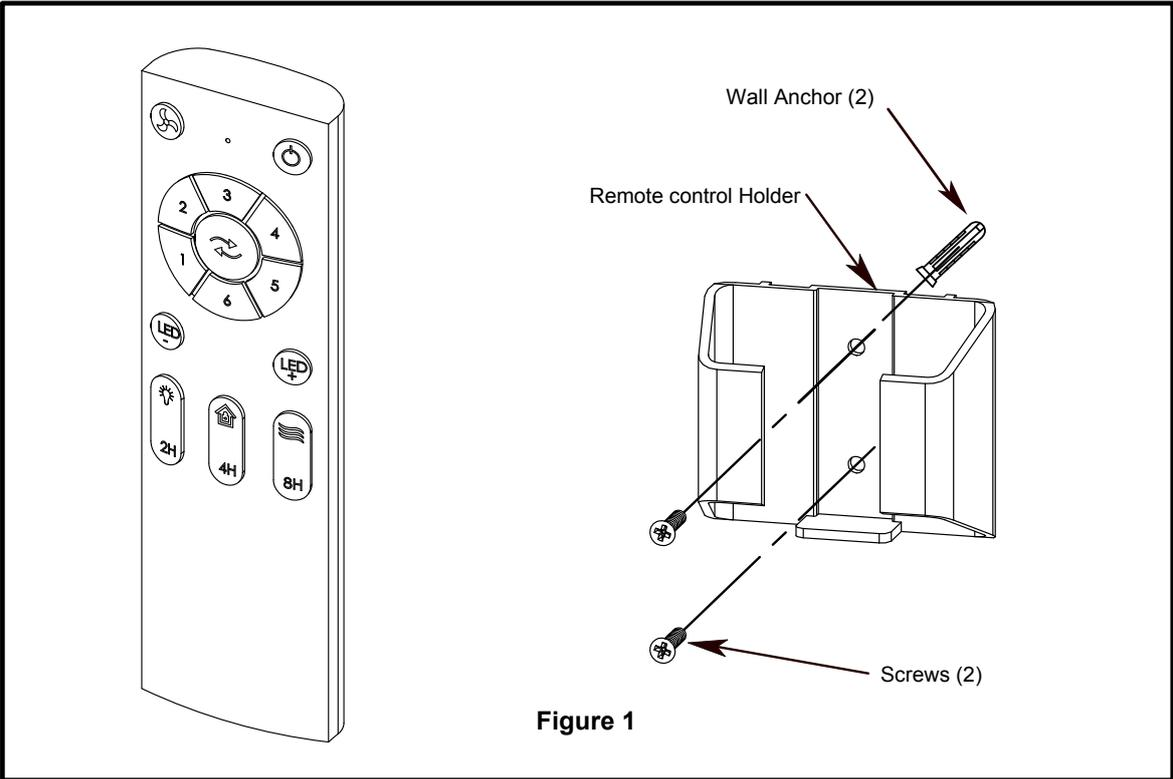

Figure 1
- 1. **Installing Remote control Holder:** (Figure 1)